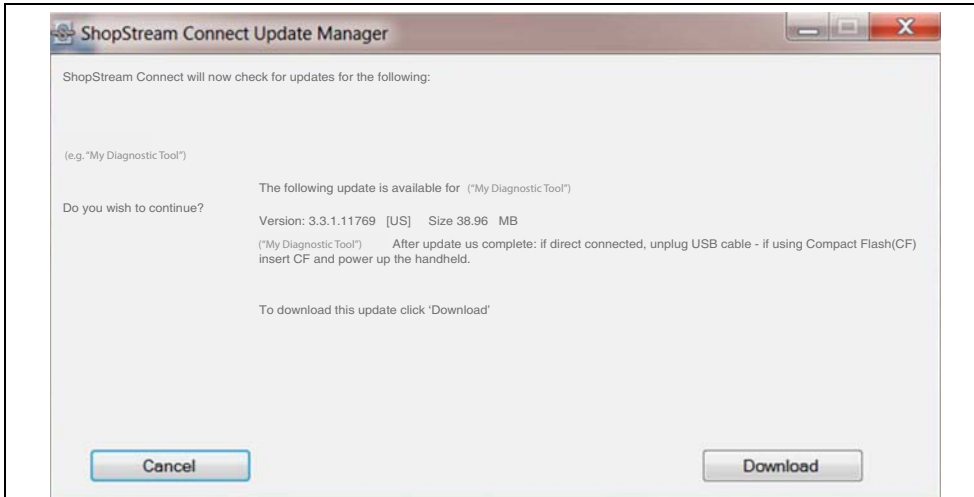

Figure 16-12
2. If service release updates are available, select **Next** to continue, then select **Download** and follow the on-screen instructions to complete the installation (Figure 16-12).